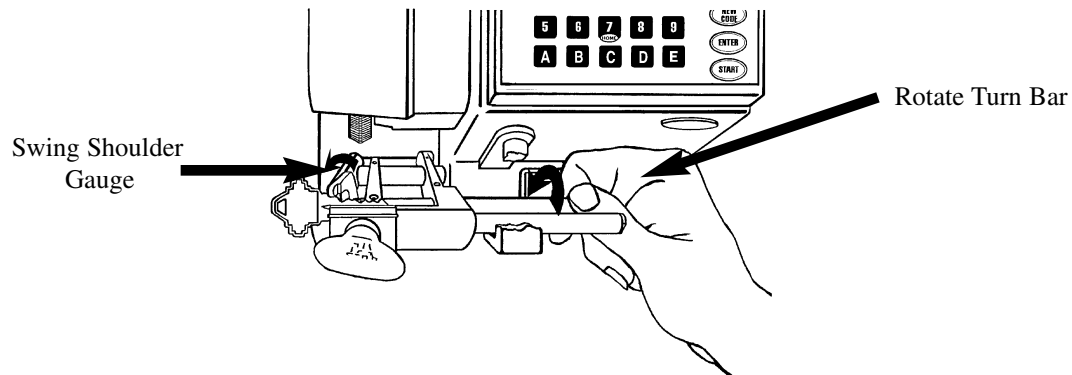

Fig. 2
Note: If the Turn Bar does not rotate, squirt some WD-40, or equivalent, on the threaded end. Then work it loose by simultaneously swinging the Shoulder Gauge and rotating the Turn Bar. (See Fig. 2)
- 10) Swing the key Shoulder Gauge down to release the Turn Bar. Then, firmly gripping the right end of the Turn Bar so that it remains stationary, swing the key Shoulder Gauge up against the key. Rotate the Turn Bar to the desired position and hold it there. The Shoulder Gauge should just touch the shoulder of the key (see Fig. 2). Now, without rotating the Turn Bar further, tighten the set screw that holds the Turn Bar.